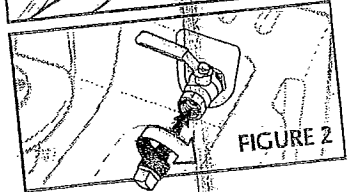

FIGURE 2
4. Put at least three layers of Teflon tape on the 3/4" plug and install plug on the Gas Walker valve. (Figure 2)